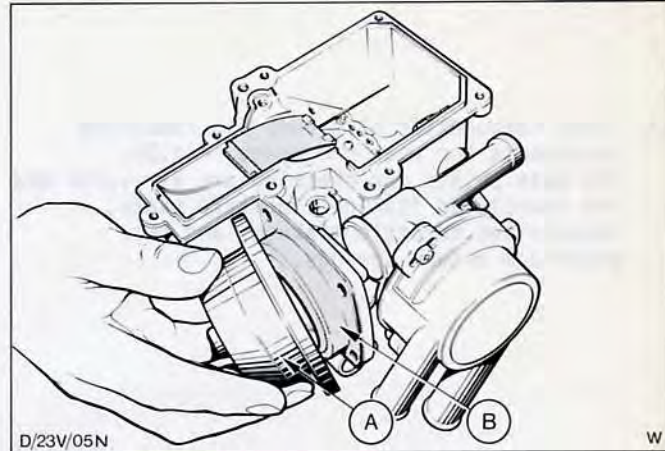

Fig.51. Vacuum diaphragm removal.
8. Remove four cross head screws and detach vacuum diaphragm housing, return spring and spring seat. Remove circlip and detach diaphragm, Fig.51.